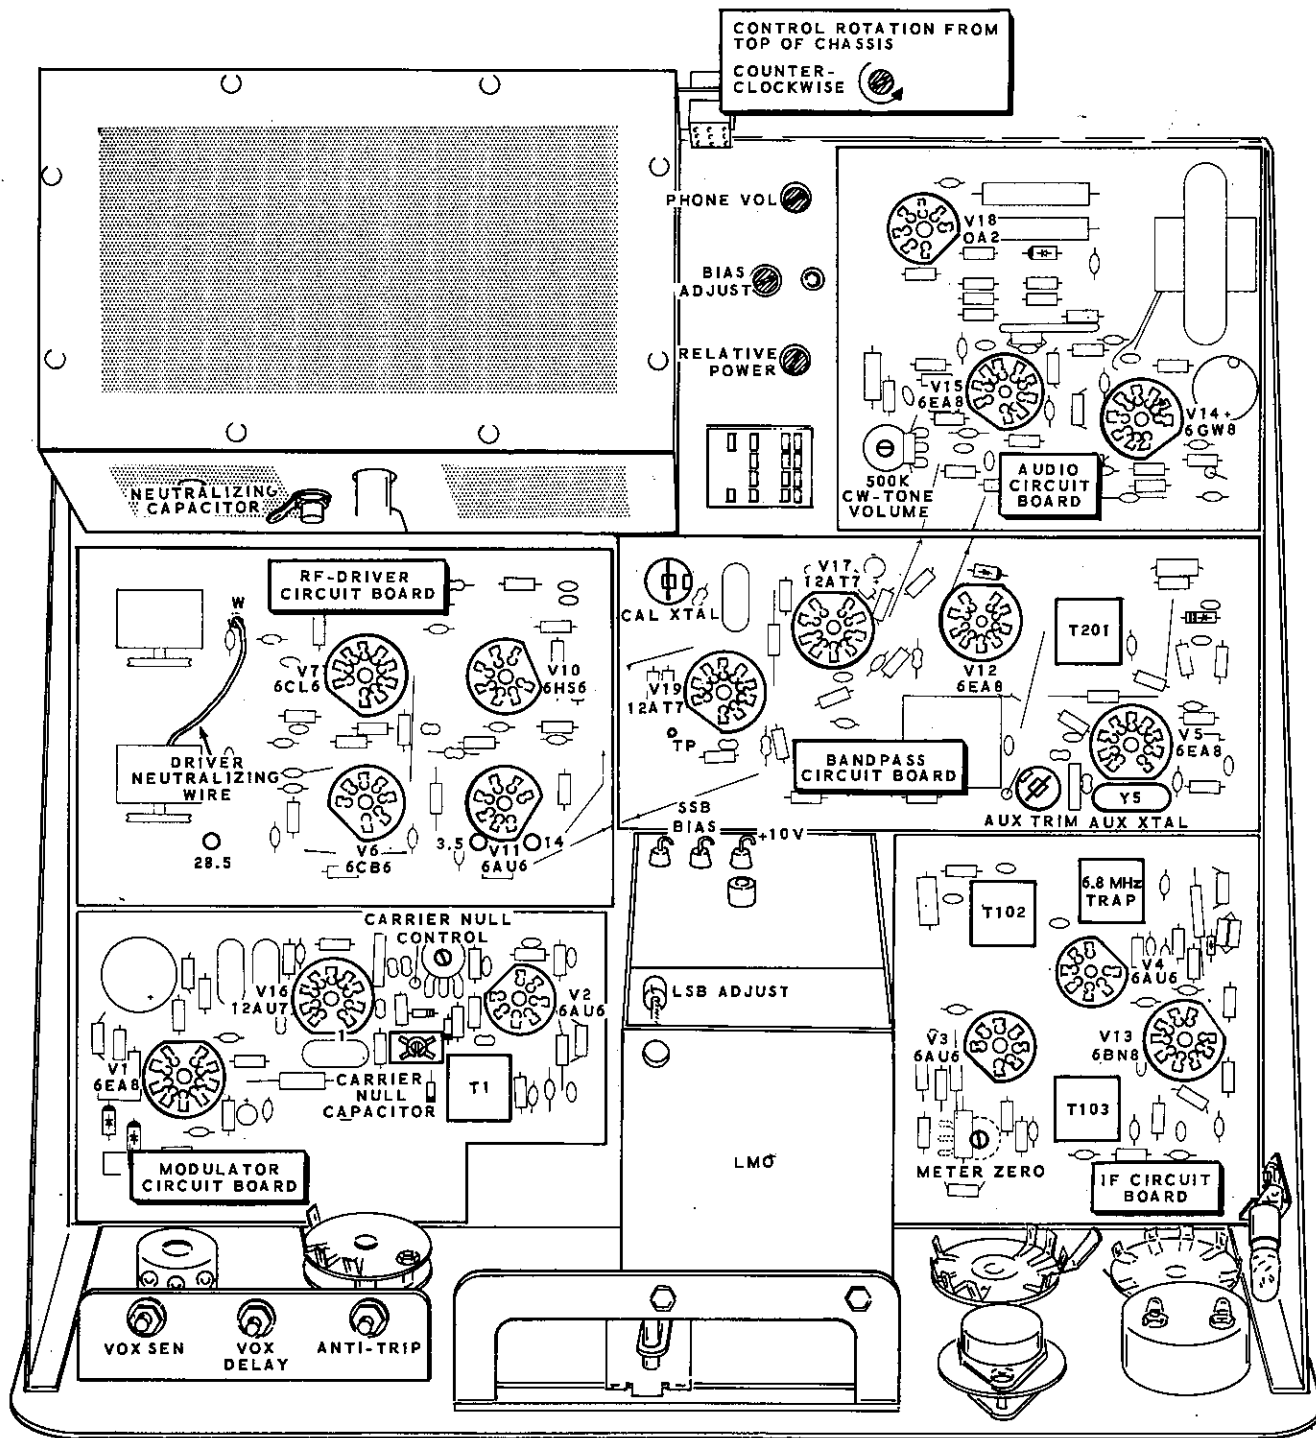

FIGURE 1-1
- (✓) Set the following chassis controls to a fully counterclockwise position. Refer to Figure 1-1 (fold-out from Page 88) to help locate the controls.
Refer to Figure 1-1 (fold-out from Page 88), 1-2 (fold-out from Page 107) and 1-3 for the following resistance checks.